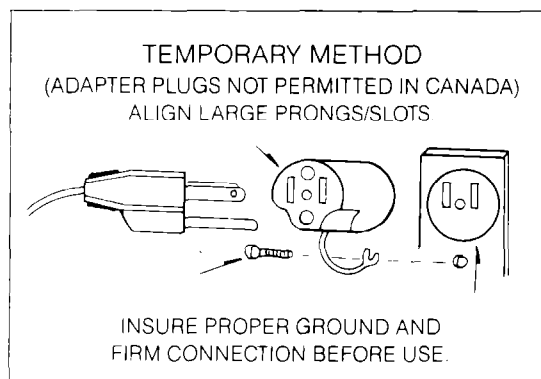

Fig. 2
1. Usage situations where appliance's power cord will be disconnected infrequently: Because of potential safety hazards under certain conditions, we strongly recommend against the use of an adapter plug. However, if you still elect to use an adapter, where local codes permit, a TEMPORARY CONNECTION may be made to a properly grounded two-prong wall receptacle by the use of an UL listed adapter which is available at most local hardware stores (Fig. 2).